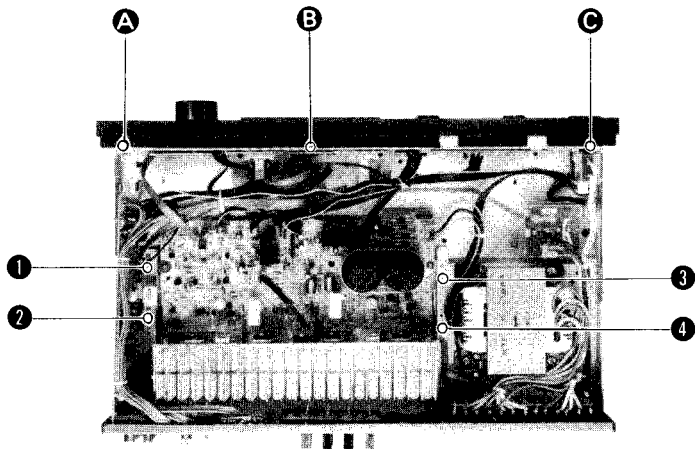
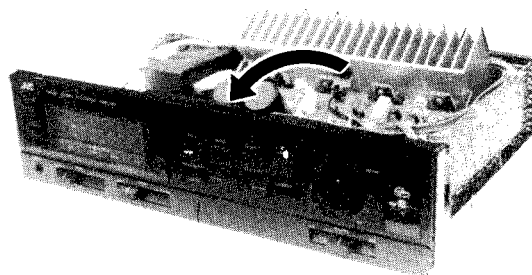

Fig. 2
Fig. 3
2. Remove screws ① ~ ④ on the bracket of P.C. board. (Fig. 2)
**Note:** If screws ③ and ④ can not be easily removed, loosen the power transformer fixing screws and then slightly move the power transformer.
3. Pull out the main P.C. board in the direction of arrow as shown in Fig. 3.
1. Remove plastic rivets A ~ C on the upper part of front panel shown in Fig. 2.